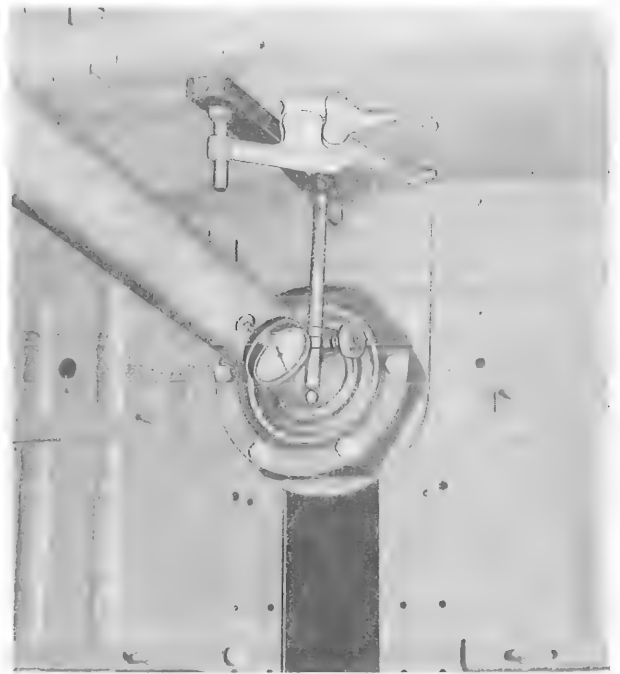

Figure 4-16. Checking Drive Shaft Runout
- i. Use dial indicator attached to main gear box, or some other rigid attaching point, to check runout of installed section I of drive shaft. (See figure 4-16.) Maximum runout is 0.012-inch TIR.
- ab. Check installed shafting for runout. Use dial indicator attached to rigid point. (See figure 4-16.)
l. Attach dial indicator to rigid point and check runout. (See figure 4-16.)